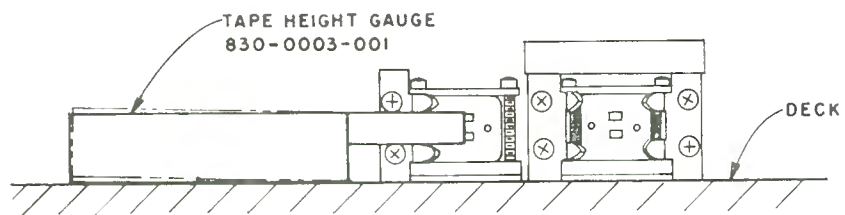

FIGURE 5-13
the tape guide as shown in Figure 5-13. The gauge should advance fully into the tape guide, without friction, while resting flat on the deck—not tilted as shown by the dashed line (or its opposite) in Figure 5-13. The tape height gauge should be demagnetized so that it will not effect the “heads.”)
3. Keeping the Tape Height Gauge flat on the deck, position the tape guide as shown in Figure 5-13.